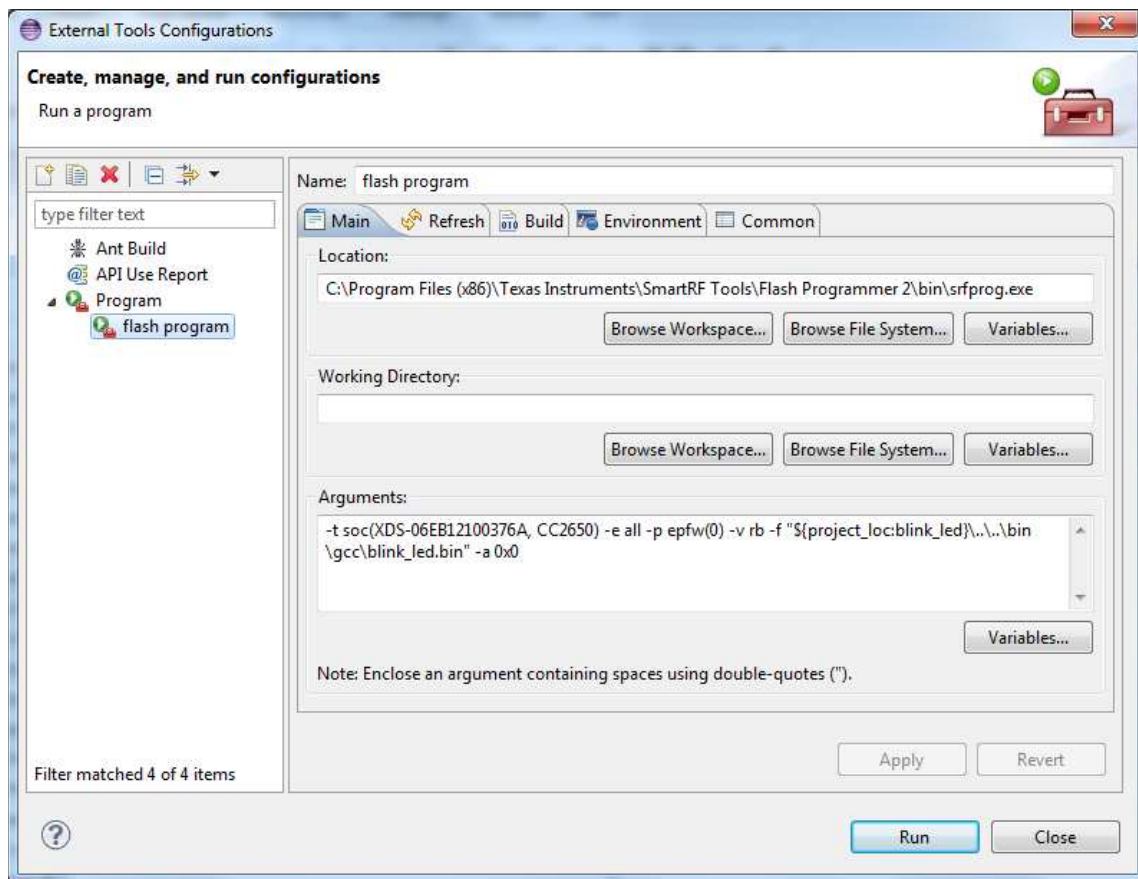

Figure 15. Flash Programming Configuration
7. Fill in the fields 'Name', 'Location' and 'Arguments' as shown in Figure 15.